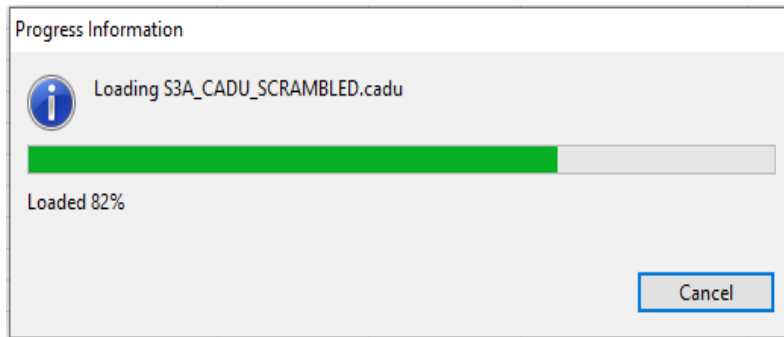
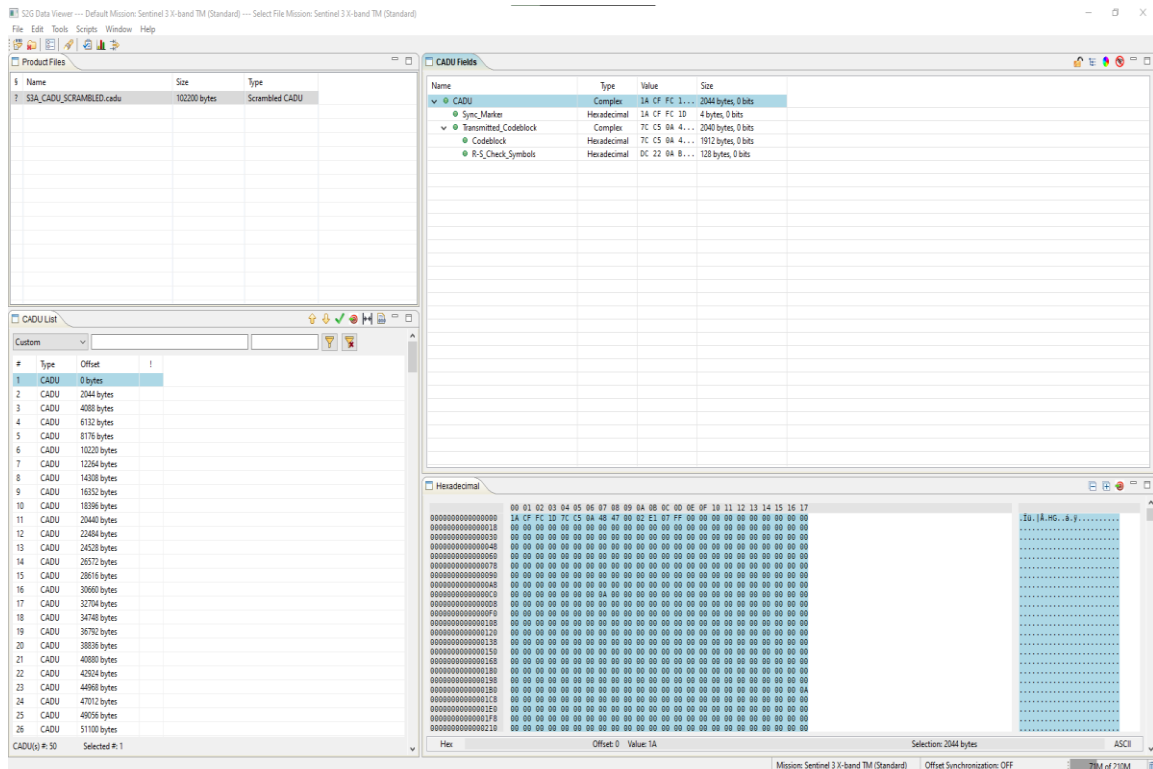

Figure 29: Progress bar when loading file
Figure 30: S2G Main Window displaying file contents
3. Select the file to open, and finish with OK. After this step, a progress dialog is shown while loading the file (Figure 29), and the file will appear listed in the Product Files view (Figure 30).